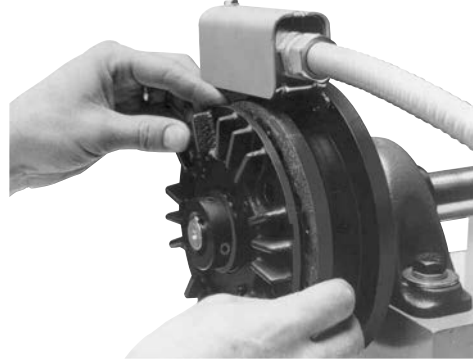

Figure 17
10. Reset the gap by moving the clutch rotor away from the field or brake armature toward the magnet. (See Figure 17)